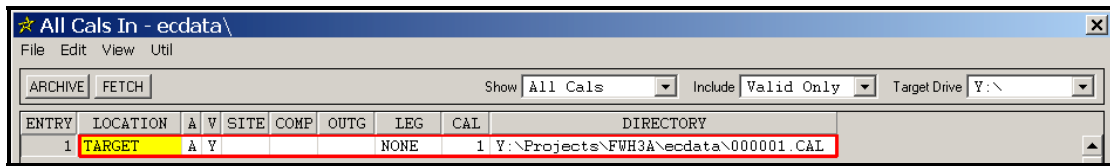

Figure 12-1. Cal Admin Dialog - Fetching a Cal Group
STEP 7: Click the entry for cal group #1. The *Cal Admin* dialog should appear similar to Figure 12-1.